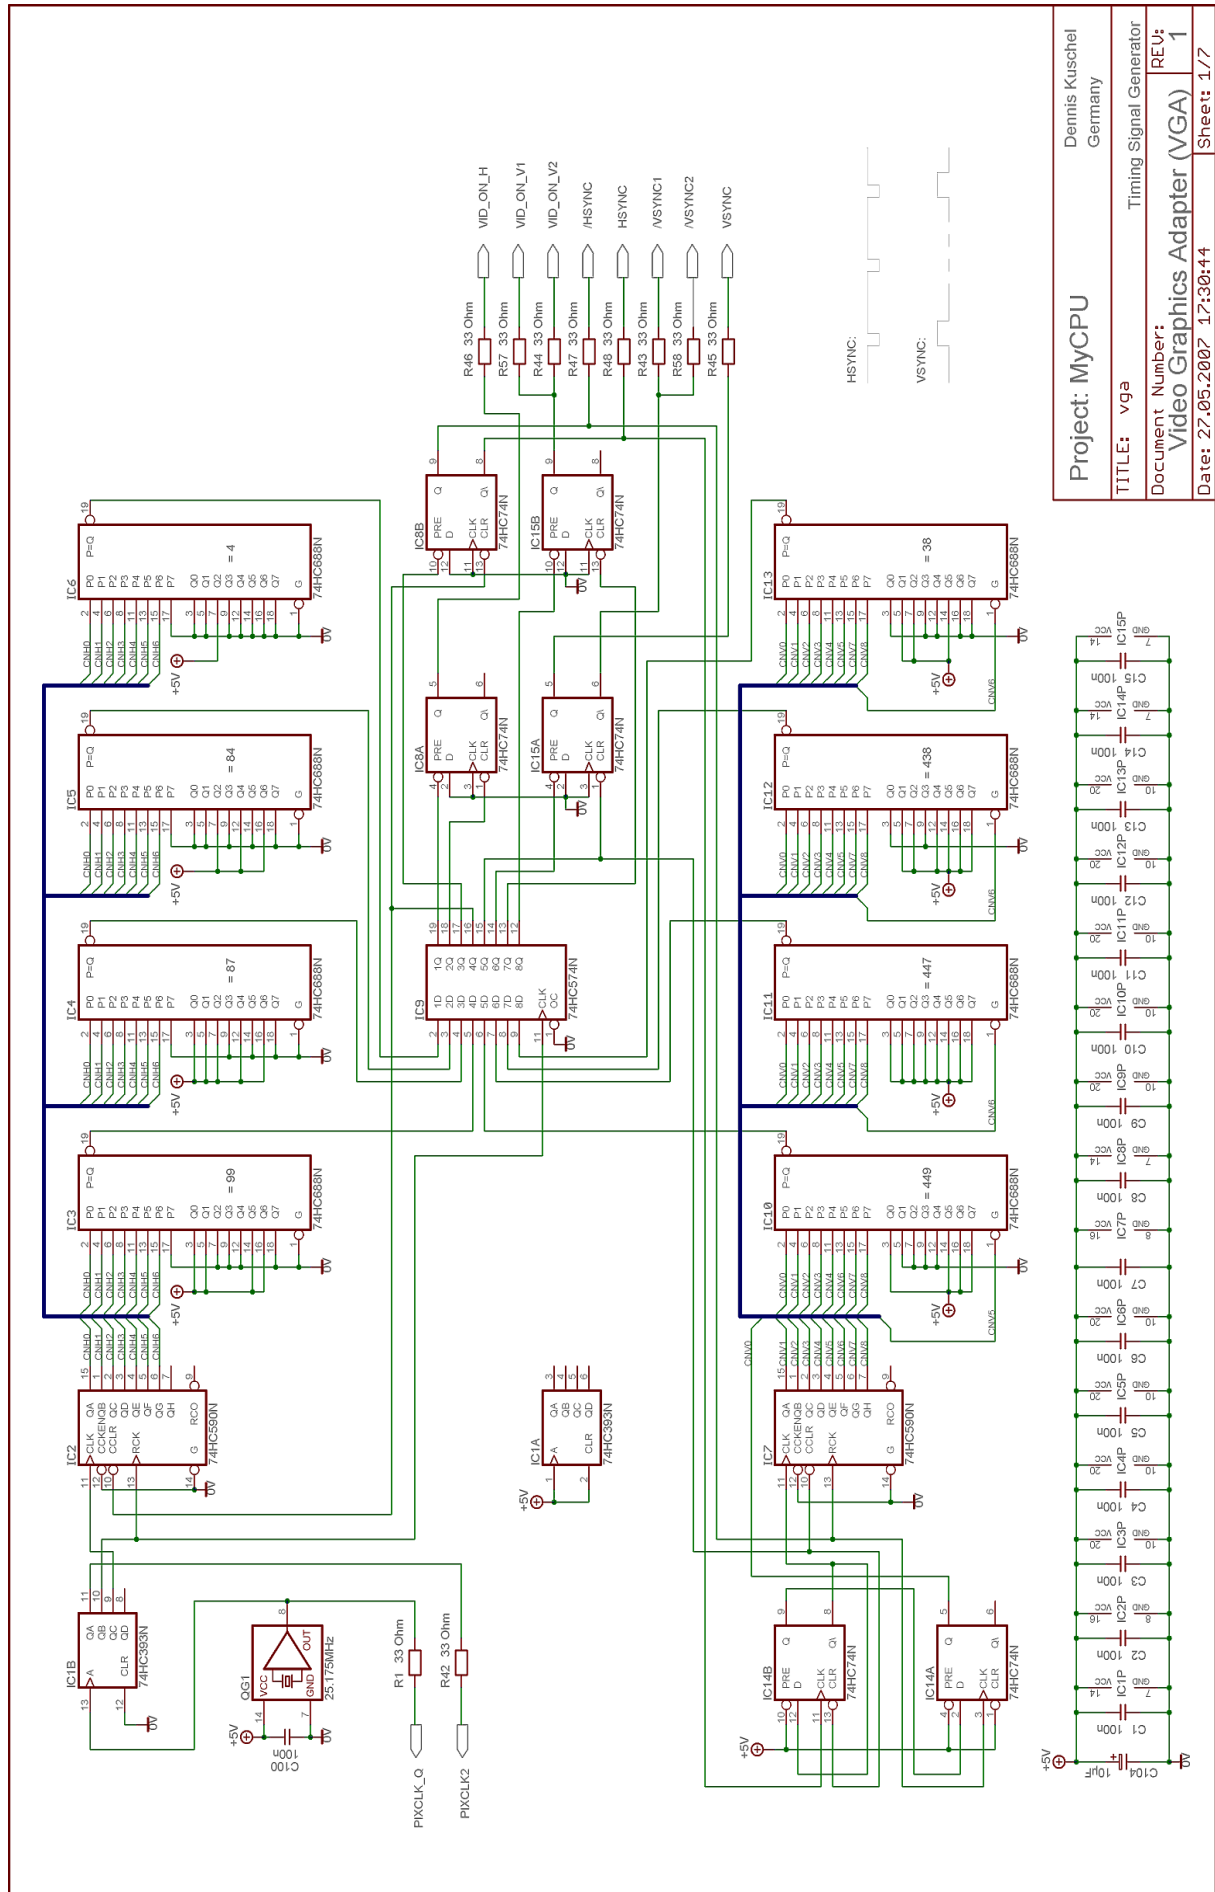

Fig. 35: Timing Generator
- Fig. 35 on Page 41: Timing Generator